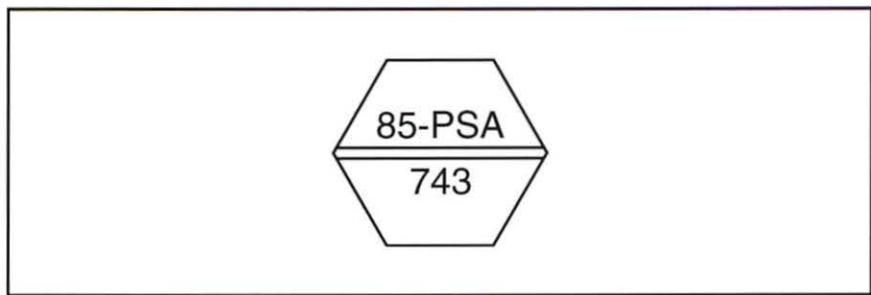

Figure 86. Instrument Tag
- ❑ 13. Perform the following substeps to interpret the information on the instrument tag in figure 86.
- A. Determine the type of device indicated by the tag in figure 86.
- B. Determine where the device indicated by the tag in figure 86 is located.
- D. Determine what the device indicated by the tag in figure 86 is measuring.
- E. Determine the loop in which the device is located, according to the tag in figure 86.
- F. Determine the area in which the device is located, according to the tag in figure 86.
- G. Determine the modifiers of the device tag in figure 86.